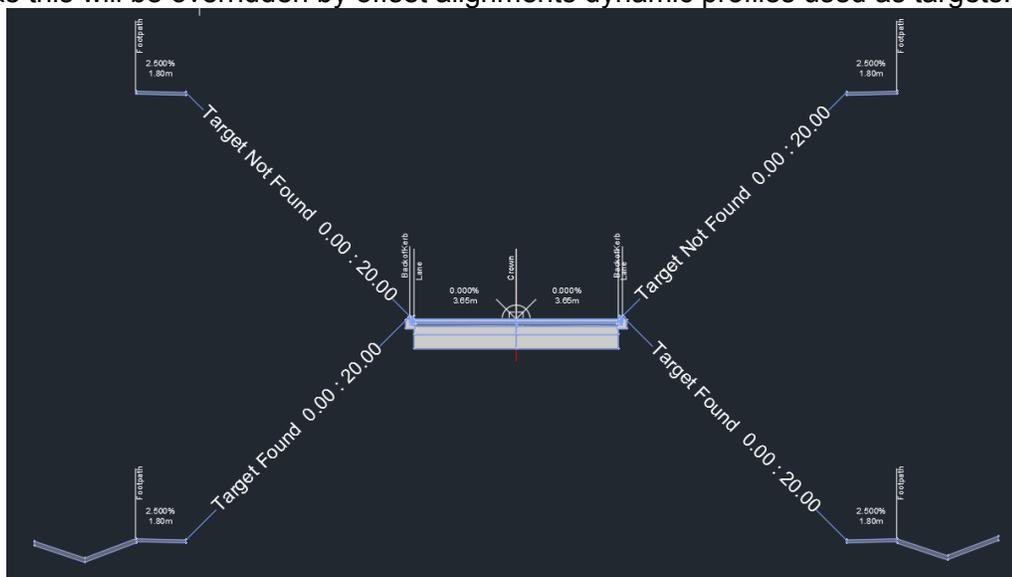

Figure 13 - Switching Crossfall Assembly
- Create an assembly as shown in Figure 13. Note carriageway crossfall set to zero, as this will be overridden by offset alignments dynamic profiles used as targets.